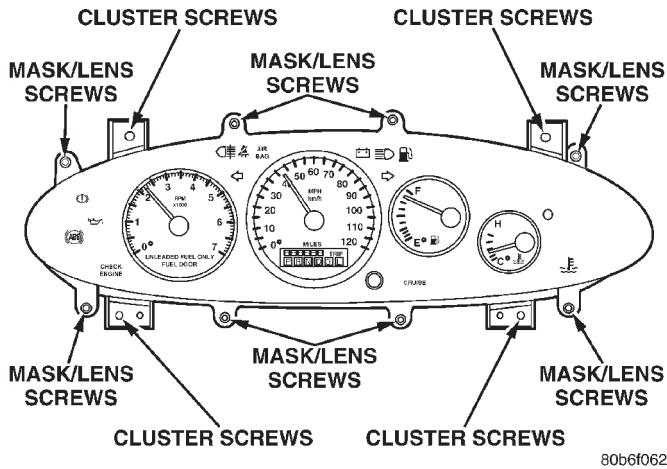

Fig. 7 Mask/Lens Retaining Screws
- (1) Remove mask/lens retaining screws and remove mask/lens (Fig. 7).
- (1) Remove instrument cluster hood, refer to Cluster Hood Removal and Installation procedures.
- (2) Remove the four cluster attaching screws (Fig. 7).
- (3) Remove instrument cluster and disconnect wire connectors from instrument panel by pulling cluster rearward.